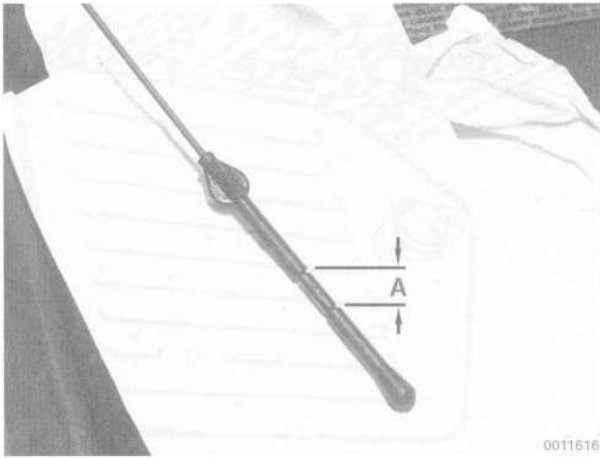

Fig. 27. ATF dipstick on A4S 310R transmission. Fluid level is indicated at A.
- On cars with ATF level dipstick, check the ATF level using Fig. 27 and **Table e**. The fluid level should only be checked with car on level surface and unloaded.